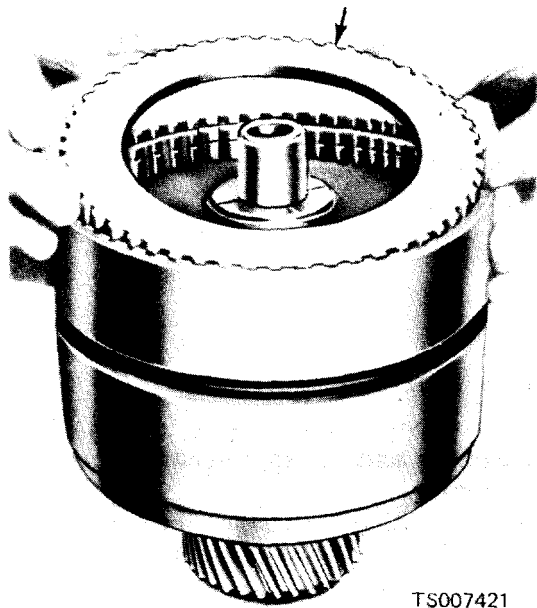
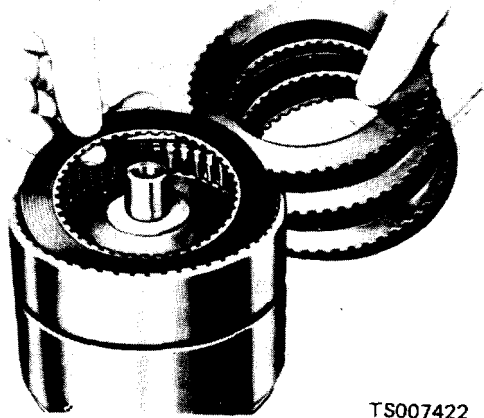

Figure 7-33. Installing Pressure Plate.
Figure 7-34. Installing Clutch Plates.
(6) Install the pressure plate in the clutch cylinder with the bearing surface up (figure 7-33). Install the composition and the steel clutch plates alternately, starting with a composition plate (fig. 7-34). When new composition clutch plates are used, soak the plates in automatic transmission fluid for 15 minutes before they are assembled.